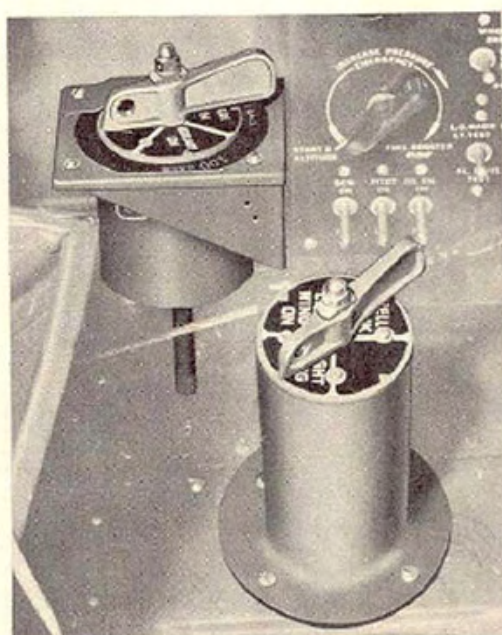
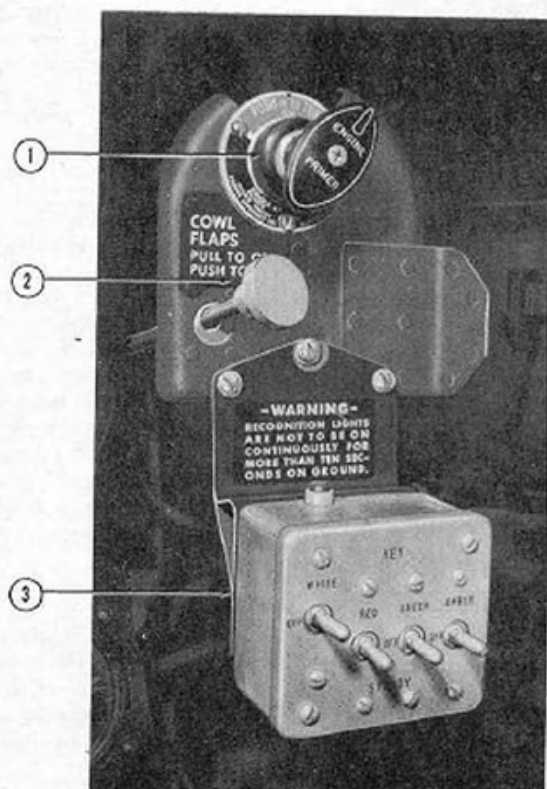

Figure 7—Fuel Selector Valves
Figure 10—1-Engine Primer, 2-Cowl Flaps Control, and 3-Recognition Light Switches
each wing. Fuel is supplied to the carburetor by means of an engine-driven pump assisted by an electric-driven, variable-speed booster pump, installed in the sump of each internal tank and controlled by a rheostat on the main switch panel. (See 6, figure 5.) When external tanks are used, a tank pressurizing system is employed to assist the engine-driven pump. Level gages (17, figure 37) in the cockpit indicate the amount of fuel in each internal tank when the airplane is in level flight position. A three-point correction chart (figure 8) is posted on the left wall of the cockpit for calculating amount of fuel aboard when the airplane is on the ground. When only approximately 40 US gallons of fuel remain in the main tank, a fuel-level warning light (6, figure 37) in the instrument panel will glow. Fuel pressure is read on the lower right scale of the engine gage unit. (See 26, figure 37.) Conventional selector valves (figure 7) permit operation from each tank individually and must be switched to the tank desired, as no internal transfer system is used. To facilitate starting and cold-weather operation, an engine primer (1, figure 10) is located in the right forward side of
e. **SELECTOR VALVES.**—Two conventional four-position selector valves (figure 7) are incorporated in the system. The main valve controls "MAIN," "AUXILIARY," "EXTERNAL," and "OFF." It is located on the left-hand side of the cockpit, just aft of the main switch panel. The secondary cock uses three positions only: "BELLY," "RIGHT WING," and "LEFT WING" and is located in the cockpit floor to the right and forward of the main valve. To draw fuel from the external tanks it is necessary to turn the secondary selector valve to the desired external tank and then switch the main valve to "EXTERNAL."
f. **ENGINE PRIMER.**—The engine priming system consists of a hand-operated pump (1, figure 10) mounted on the instrument panel. Fuel is pumped by the tank booster pump to the primer which injects it directly into the engine.
c. Recognition lights, mounted in the wing, are controlled by switches (3, figure 10) on a sub-panel to the right of the instrument panel.
Engine cooling is achieved by adjustable cowl flaps. They are hydraulically operated and controlled by a valve control (2, figure 10) mounted on a sub-panel to the right of the main instrument panel. Any intermediate setting may be obtained by releasing the control when the desired position is attained.